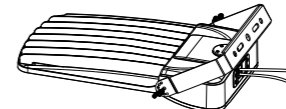

Figure 11
6. FLOOD MOUNTING (FM)
- Step 1: First install two big screwst. (Figure 11)